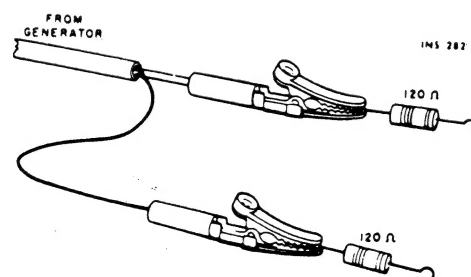

FIGURE 1. CONNECTIONS TO PROVIDE 300-OHM GENERATOR OUTPUT IMPEDENCE. MATCHING RESISTORS REDUCE GENERATOR VOLTAGE BY HALF AT THE ANTENNA TERMINALS.
- Connect an RF generator to the NORM antenna terminals. Use a 120-ohm composition resistor in series with each lead from the generator—see Figure 1.